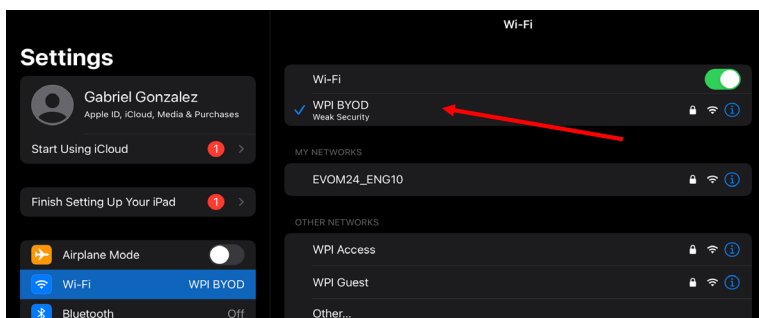
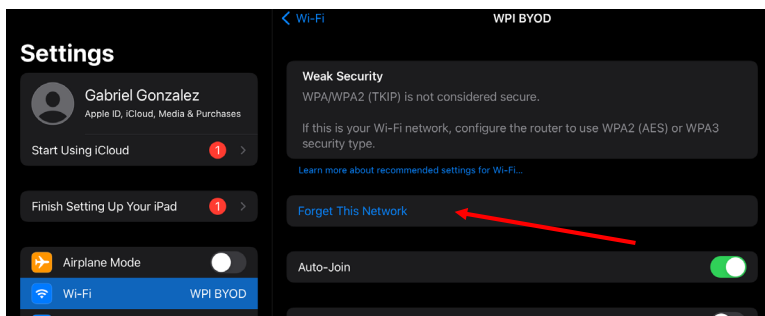

Fig. 71—Locate the WPI BYOD network.
Fig. 72—Click *Forget This Network*.
- Navigate on the iPad to *Settings* and choose *Wi-Fi*. If you see the WPI BYOD network, click *Forget WPI BYOD Network* to delete it. See Fig. 71, and Fig. 72.